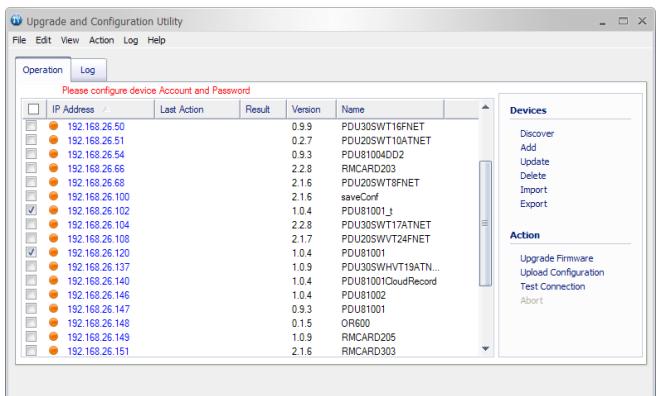

Figure 2
4. Check the checkbox to select devices on list of **Operation View** (Shown in Figure 2).